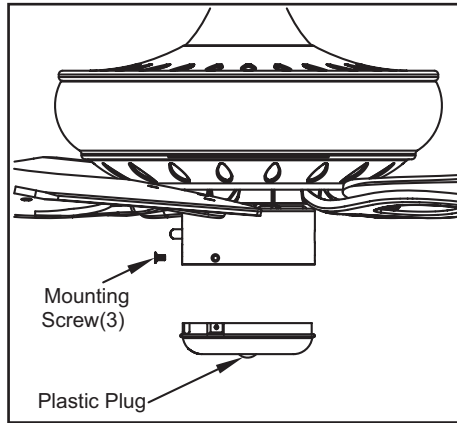

Figure 18
5. Position the switch cup cover onto the switch cup and install the three screws that were removed in step 3. Tighten the three screws (Figure 18).